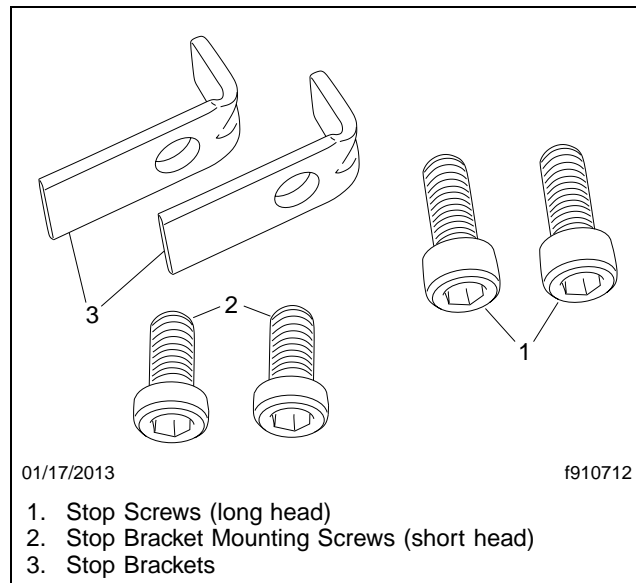

Fig. 3, Kit 25-SF477-000
7. Install new stop screws (long head) from the kit. See **Fig. 3**. Tighten the screws 16 lbf·ft (22 N·m).
9. Install new stop brackets and stop-bracket mounting screws (short head) on both slide rails, using parts from the kit. See **Fig. 3**. Ensure that the brackets are installed straight, otherwise they may not fit into the slides when the seat is pushed back.